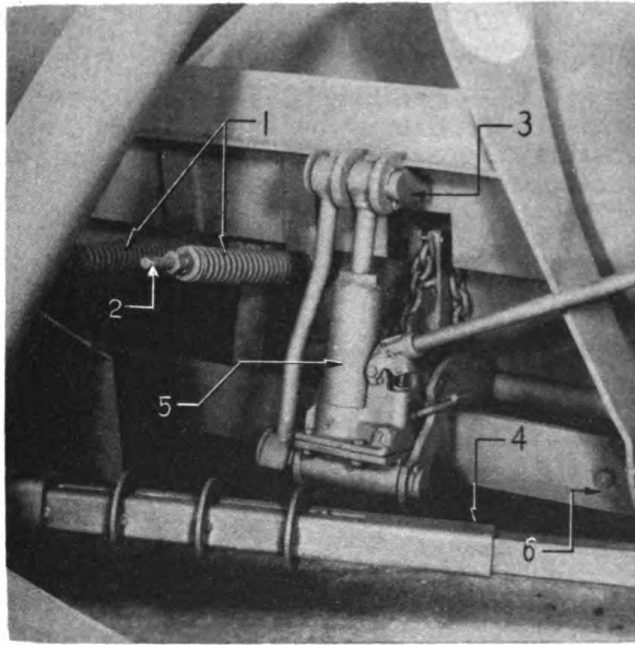

Fig. 3
- G. Replace jack lift (5) assembly by reversing the procedure explained in operation "C". (See Fig. 3 Page 10)
- I. Replace counterbalance springs (1) and adjust. (Refer to "COUNTERBALANCE SPRING ADJUSTMENT" page 19).